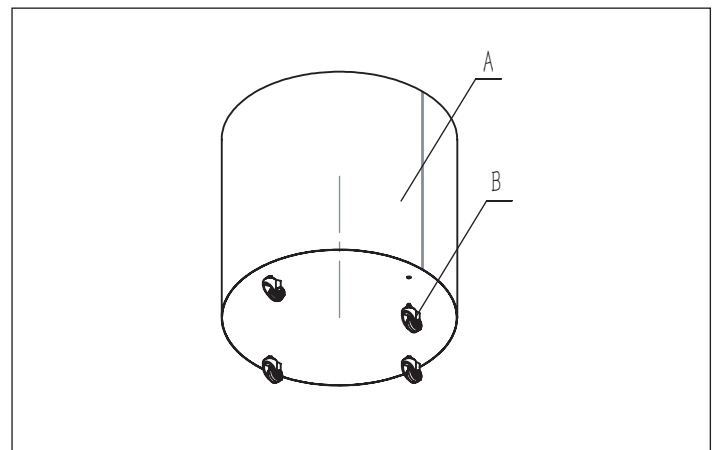

FIG. 6.3.2
6.3.2 Installing cardan wheel (See FIG. 6.3.2)